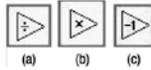

Figure 10-10. (a) The Divide Function, (b) the Multiply Function, and (c) the Decrement Function
- **Multiply:** This function is used to multiply numerical values (see Figure 10-10(b)).
- **Decrement:** This function is used to subtract by one or decrement by one (see Figure 10-10(c)).